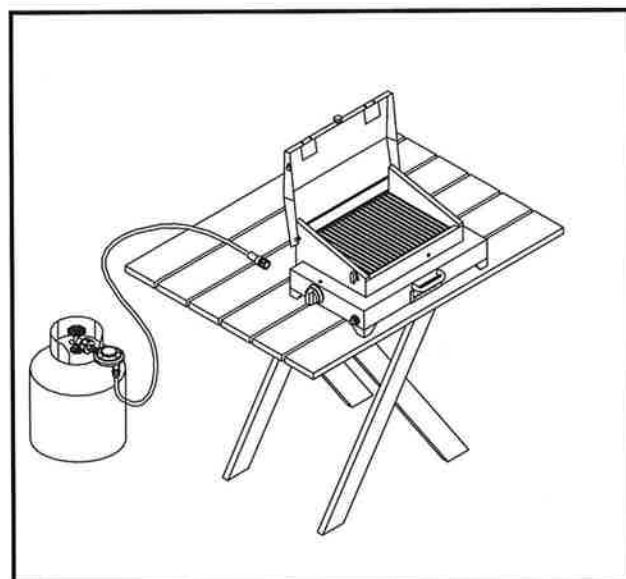

Figure 6 LP Gas Cylinder
4. Place the gas cylinder in a safe location maintaining 12 inches of clearance on all sides and locating the cylinder and hose in a position to prevent tripping. (See Figure 6, Page 7) Remove the protective caps from the Cylinder Valve Outlet and Nipple, as necessary.